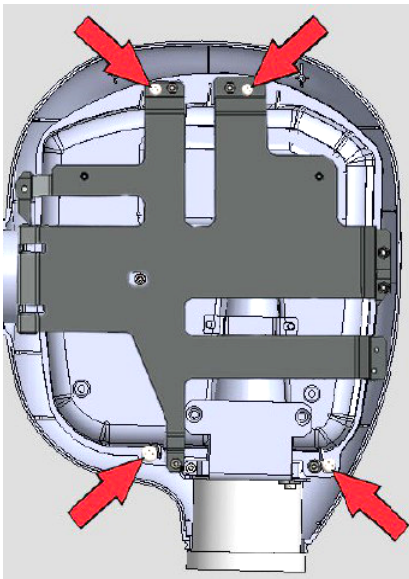

Figure 41
- Take the tube head top cover and fix it using 4 (M3X16 self tapping pan head) screws with 4 (M3) plane washers at the locations shown in the Figure 41 using a screw driver.